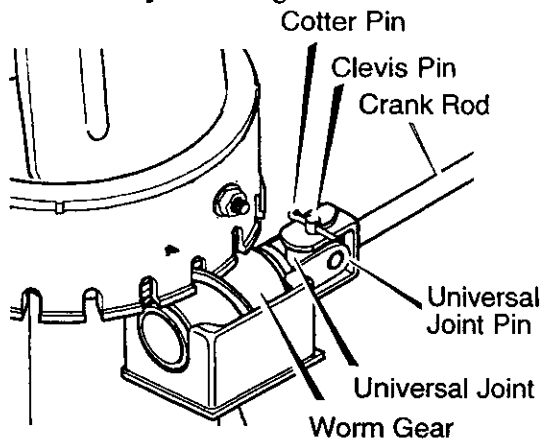

Figure 6
6. Carefully remove **cotter pin**, **clevis pin**, **universal joint pin**, and **universal joint** from the **crank rod assembly**. See Figure 6.